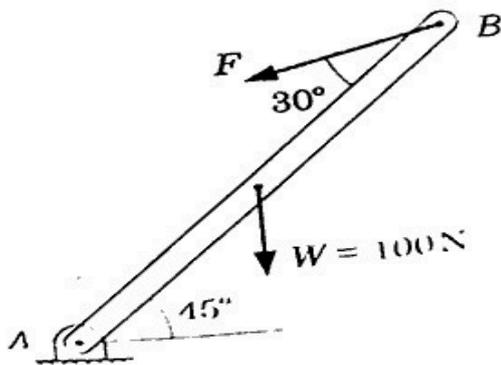

Fig.1.
- Q2 (a) A bar AB of weight 100 N is hinged at A and the pulley by a cable attached at B by a force F. Find the force F and the magnitude and direction of the reaction at A if the bar is in equilibrium position as shown in the Fig.1. (5)